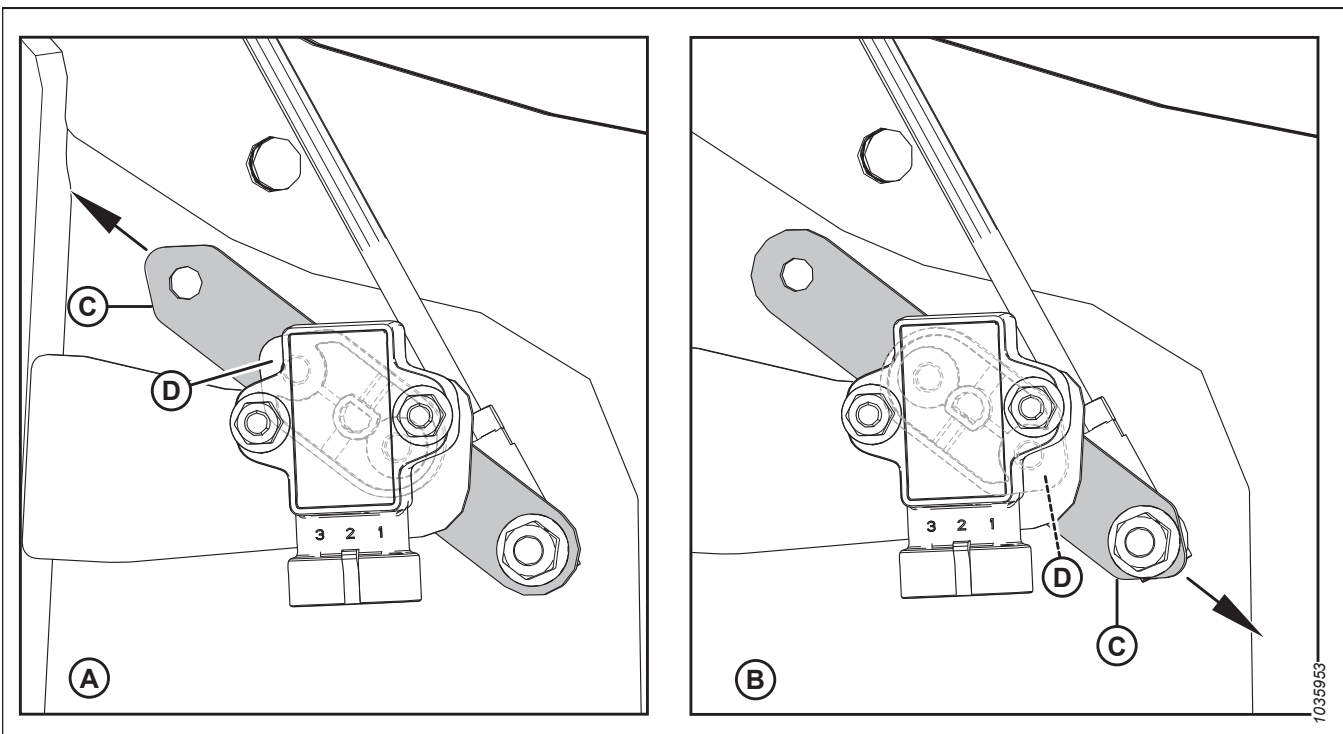

Figure 3.217: Sensor Arm/Pointer Configurations
4. Check that sensor arm (C) and pointer (D) are configured properly for your machine, refer to Figure 3.217, page 162.